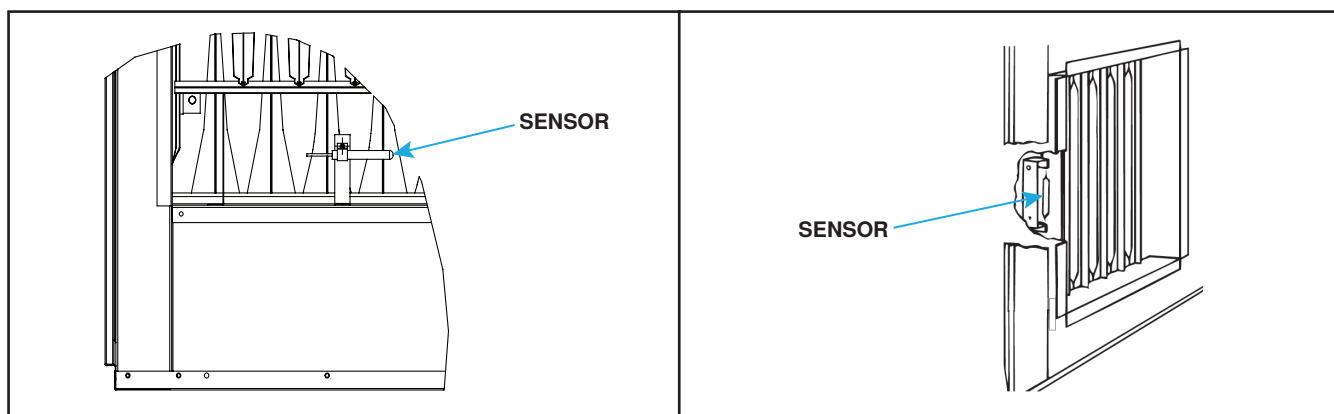

Figure 19. Shipping Locations of Capillary Sensor
Depending on the gas control option, the discharge air temperature sensor is either factory- or field-installed. Field-installed sensors have one of two configurations: a sensor and mixing tube assembly or a sensor holder and junction box assembly. For units with the sensor holder and junction box assembly option, the sensor is normally installed on a bracket in the furnace discharge for shipping but it may be mounted in the cabinet leg (see Figure 19).
- (1) Before connecting ductwork to furnace, remove capillary sensor from its shipping position on furnace (see Figure 19).